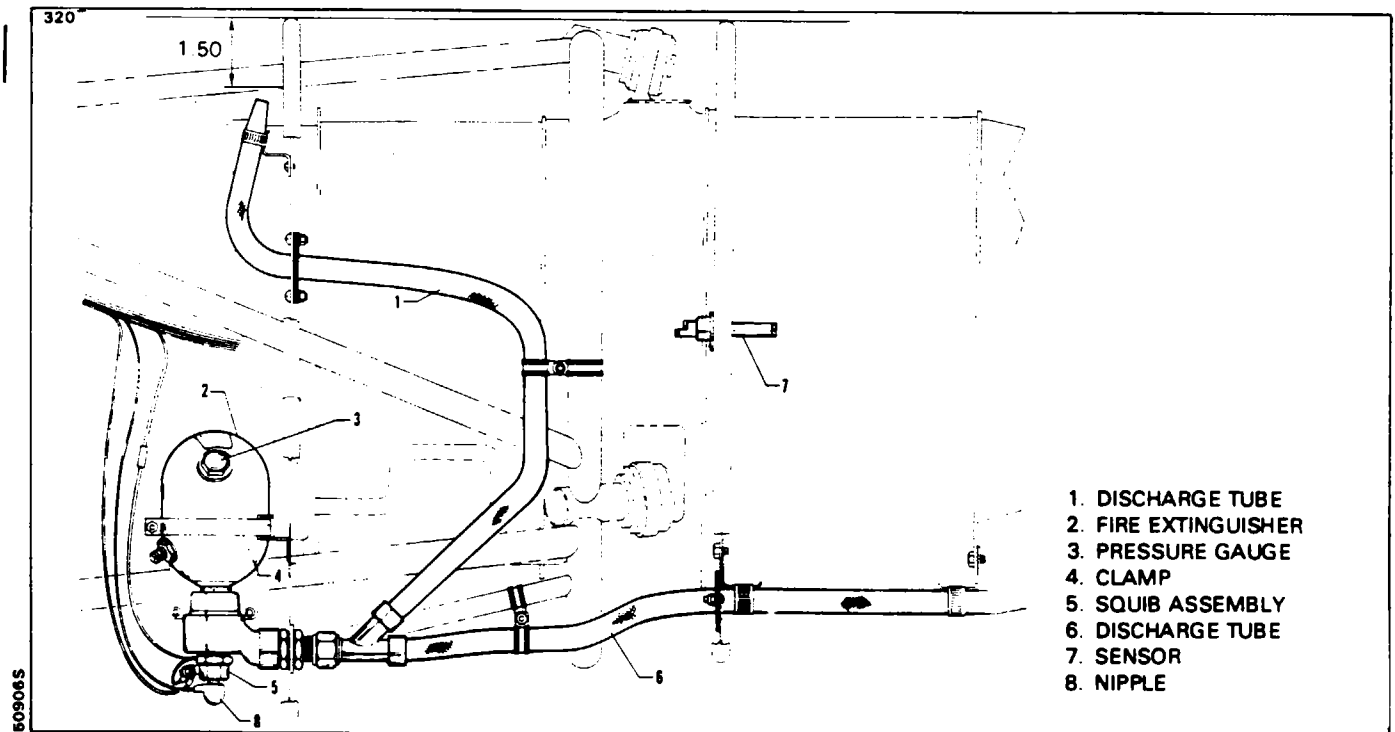

Figure 26-3. Engine Fire Extinguisher
5. Ascertain the placement of the discharge nozzles per the dimension shown in Figure 26-3. It is important that the nozzles be positioned as shown to obtain proper dispersal of the extinguishing agent.